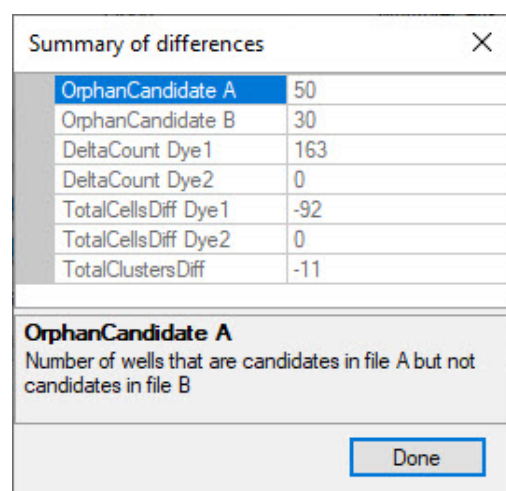

Figure 73. Example of the *Summary of differences* window. The descriptions of the parameters are described in Table 12.
The example in Figure 73 is the result of only changing the Dye1 Threshold from '40' to '45'. The immediate effect is that the total number of cells for Dye1 is reduced by 92 (–92). Values related to Dye2 stayed the same (0).
In the example in Figure 73, there are 80 wells (OrphanCandidate A + OrphanCandidate B) where the candidate call has changed.